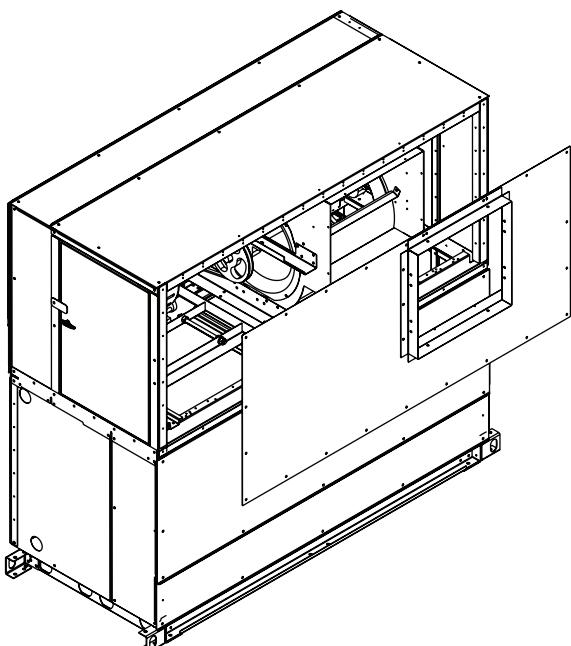

Fig. 75 — Remove Fan Discharge Panel
1. Disconnect the fan discharge by removing the screws from the discharge of the fan housing. Remove the fan discharge panel (Fig. 75).